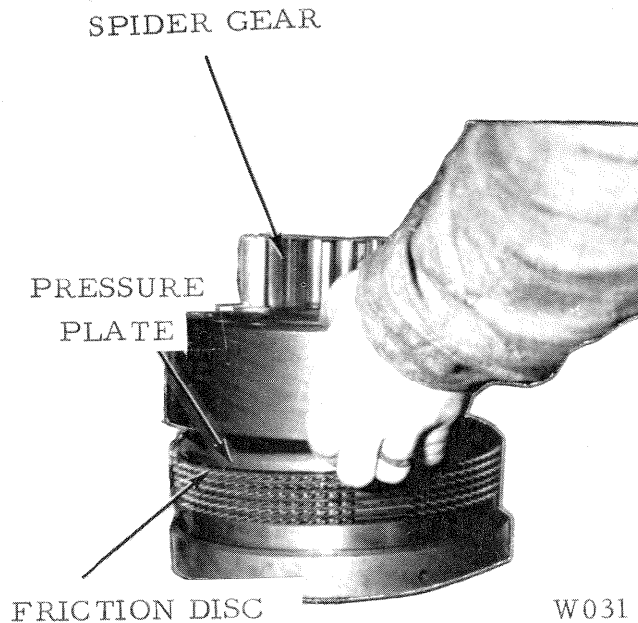
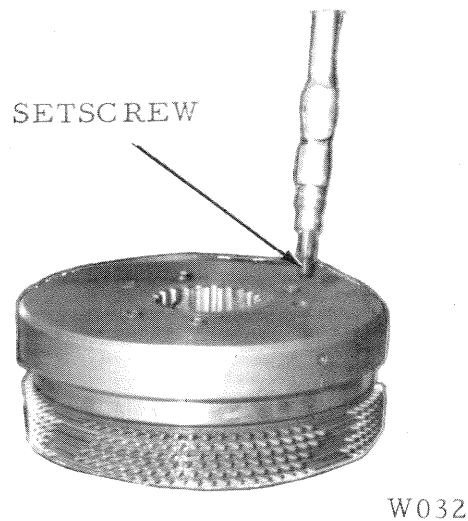

Figure 31
Figure 32
1. Lift the spider gear off the clutch assembly Fig. 31. Use an impact driver to remove the socket head setscrews locking the assembly capscrews Fig. 32.